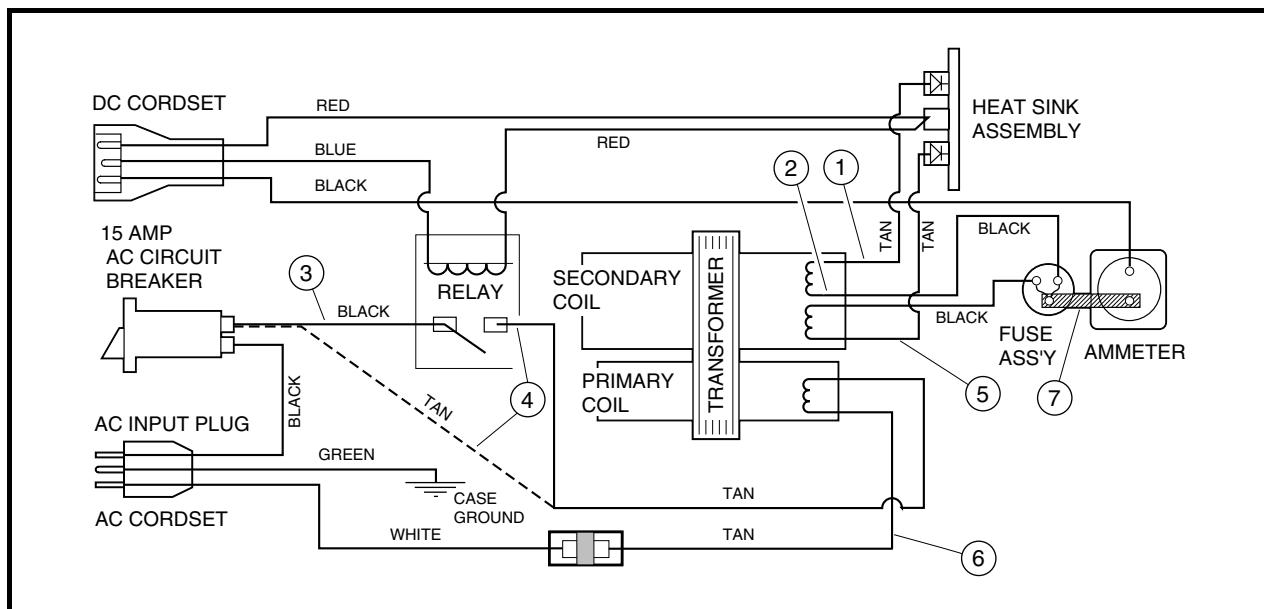

Figure 13-10 PowerDrive Charger Wiring Diagram
5. Inside the charger, locate the black wire (3) that goes from the circuit breaker to the relay and disconnect it from the circuit breaker terminal. Make sure this wire does not touch the charger housing or any other charger components (**Figure 13-10, Page 13-14**).
6. Disconnect the transformer wire (4) from the relay and then connect this wire to the open terminal on the circuit breaker (**Figure 13-10, Page 13-14**).